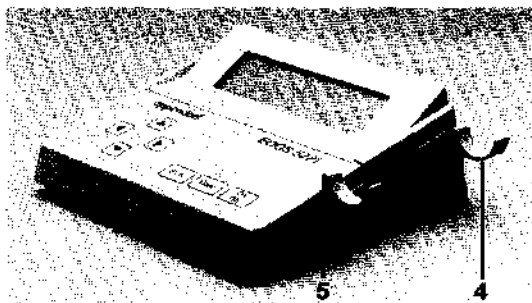

Fig. 2: EDOS control unit
The rest for the dispensing grip (4) is placed onto the right side of the control unit (Fig. 2).